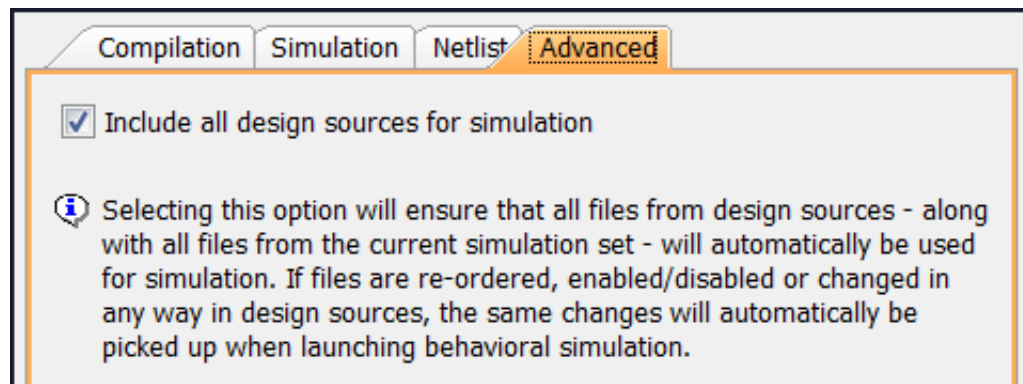

Figure 3-7: Advanced Simulation Settings View
- **Advanced View:** Shown in Figure 3-7, provides an option to include all design sources for simulation.